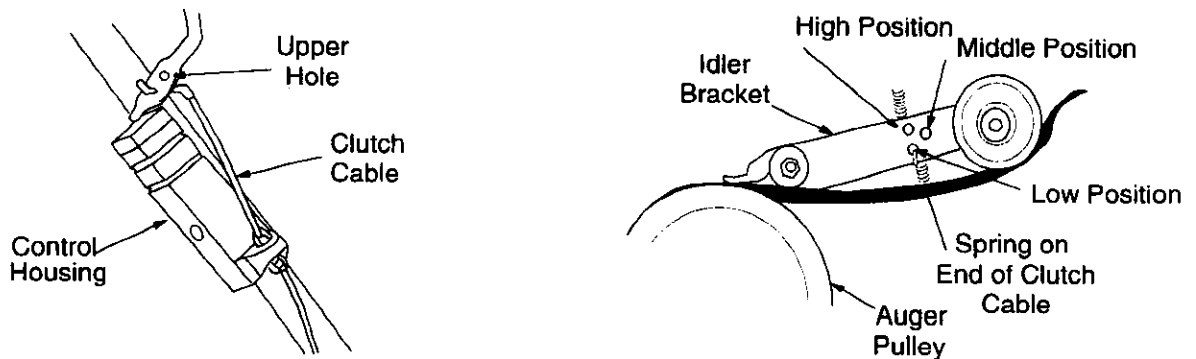
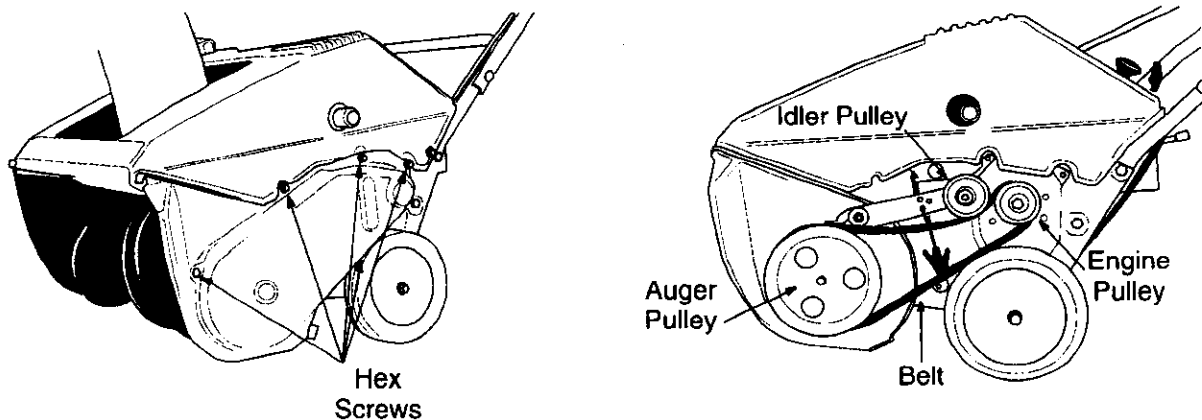

Figure 14
Figure 15
The upper hole in the control handle provides adjustment for belt tension. To adjust, disconnect the "Z" end of control cable from the bottom hole in the control handle. Refer to Figure 14. Hook the cable into the upper hole in control handle.
If additional adjustment is required, adjust the other end of the control cable at the Idler Bracket as follows: Remove the belt cover. See Figure 15. There are three adjustment holes provided in the Idler Bracket Assembly. See Figure 14. To adjust, move the extension spring on the end of the clutch cable to the next higher adjustment position on the Idler Bracket Assembly. Reassemble belt cover.
1. Remove the belt cover by removing five hex screws. See Figure 15.